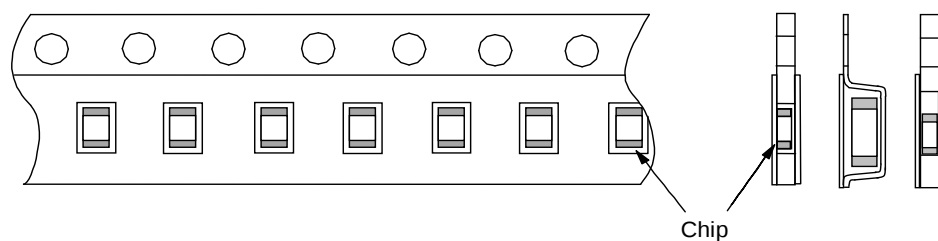

Fig.2 Dimensions of Reel
|       |                    | Capacitance Change                                                                                                                                                                                                                                                                                           | Within $\pm 10.0\%$                 | Then apply a force in the direction shown in Fig 2 for 60s.                                                                                                                                                                                                                                                                                                                                                                                                                                                                                                    |      |   |   |   |       |     |     |     |       |     |     |     |       |     |     |      |       |     |     |     |       |     |     |     |
|       |                    |                                                                                                                                                                                                                                                                                                              |                                     | <div><p>Fig.t:1.6mm (GCJ15:0.8mm)</p></div> <div><p>Fig.2</p></div>                                                                                                                                                                                                                                                                                                                    |      |   |   |   |       |     |     |     |       |     |     |     |       |     |     |      |       |     |     |     |       |     |     |     |
1.11 Reel is made by resin and appeaser and dimension is shown in Fig 2.